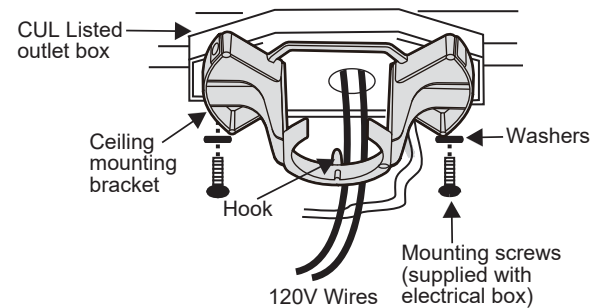

Fig. 6
Step 4. Pass the 120 volt supply wires from the ceiling outlet box through the center of the ceiling mounting bracket. (**Fig. 6**)
Step 5. Attach the ceiling mounting bracket to the outlet box using the screws and washers included with the outlet box. (**Fig. 6**)